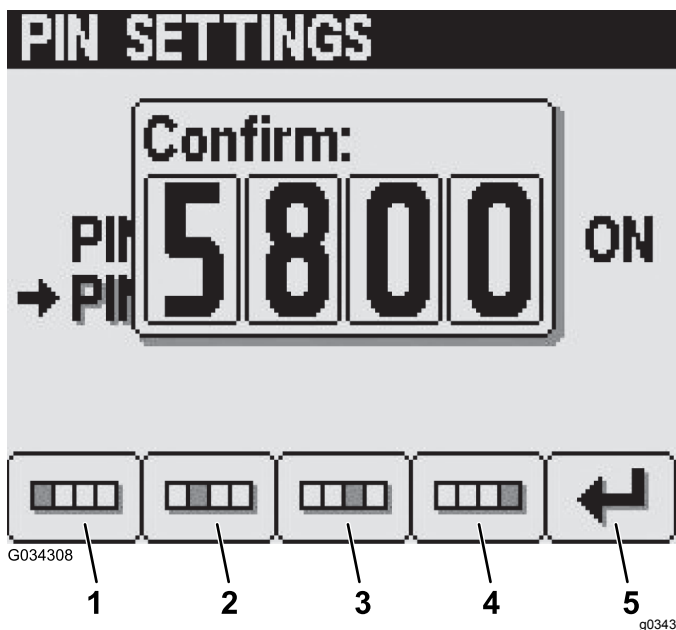

Figure 30
6. Confirm your new PIN using buttons 1 to 4 and press button 5 when you complete the PIN (Figure 30).
Note: After you confirm the pin settings (Figure 30), a Pin Correct screen will appear for approximately 5 seconds.